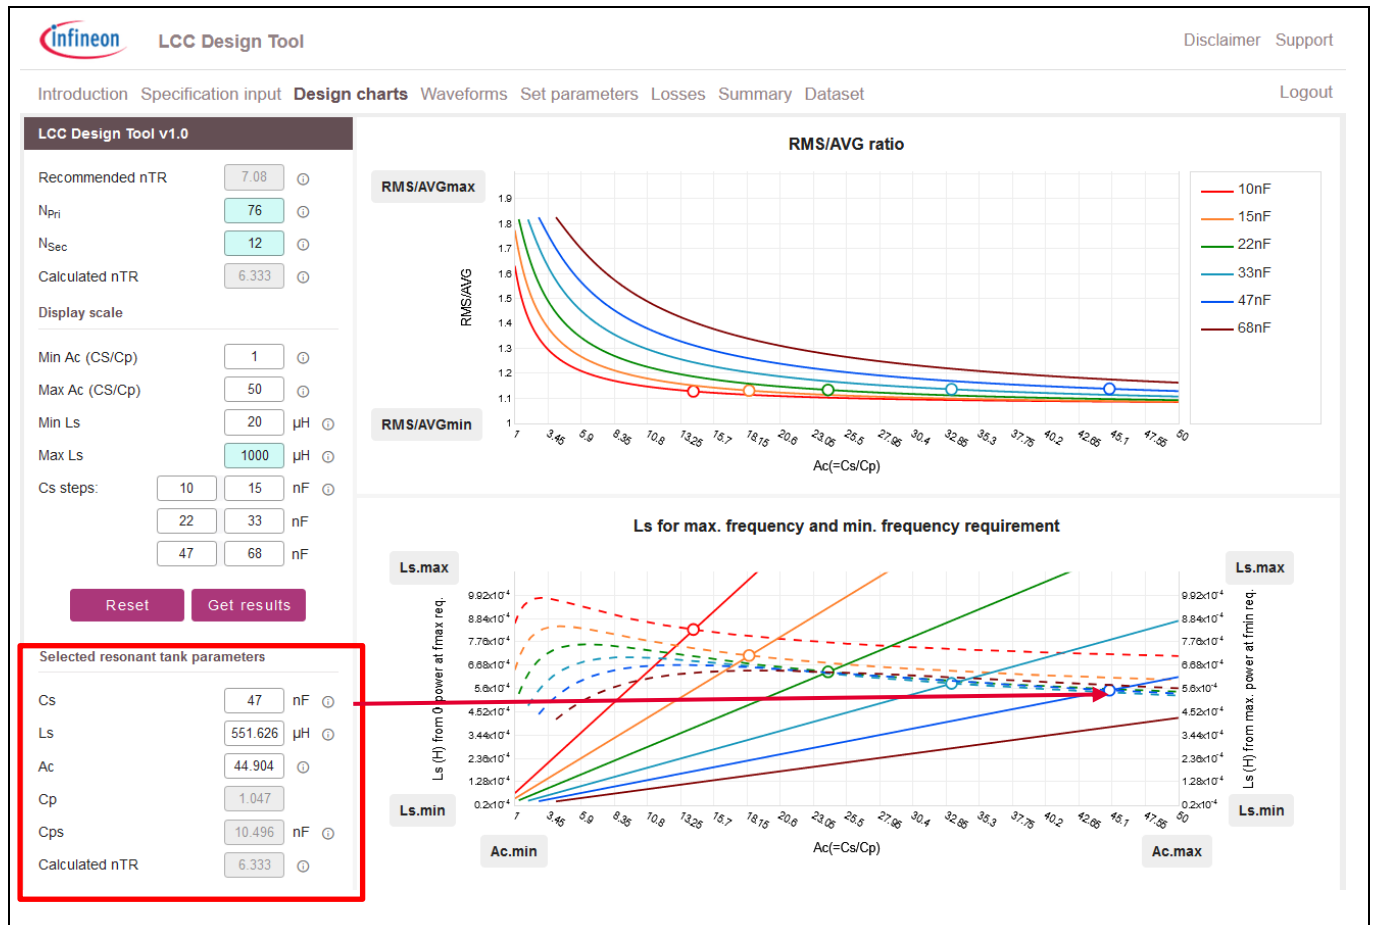

Figure 22 LCC Design Tool: Fine-tuning the tank design specifications
- Small changes for those values can be made here (adjustments due to real passive components), as shown in Figure 22.